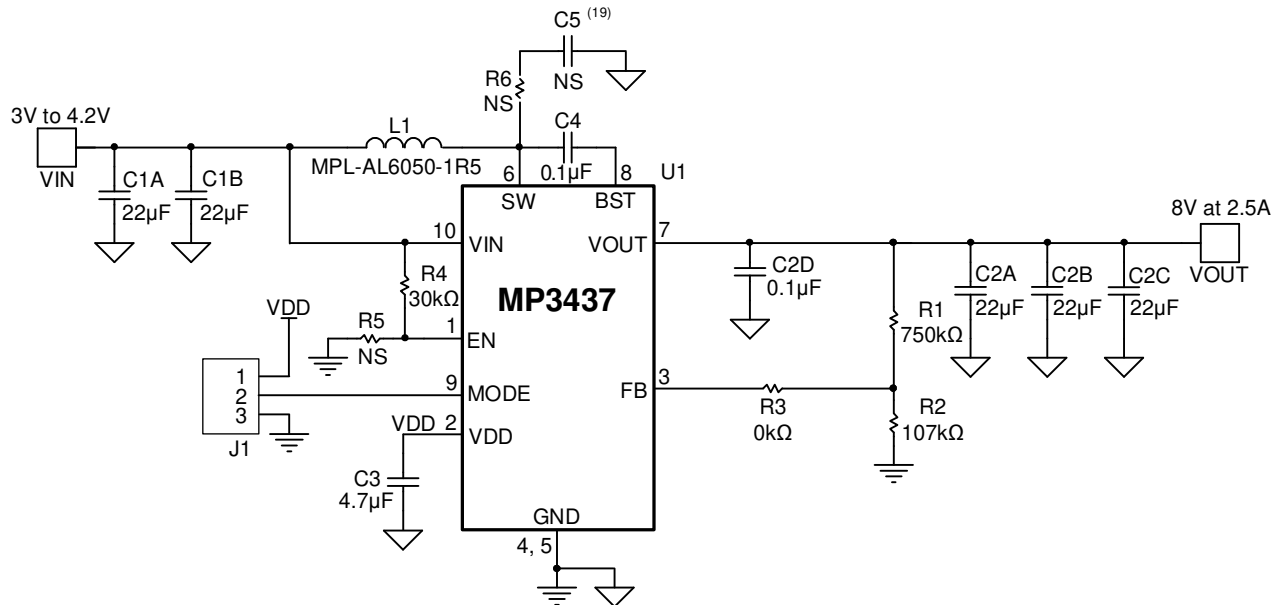

Figure 5: QFN Package Typical Application Circuit
Figure 5 and Figure 6 show the detailed application schematics. For the typical performance and circuit waveforms, see the Typical Performance Characteristics section on page 10. For more device applications, refer to the related evaluation board datasheet.
18) The recommended PCB layout is based on the typical application circuits (see Figure 5 and Figure 6 on page 23).